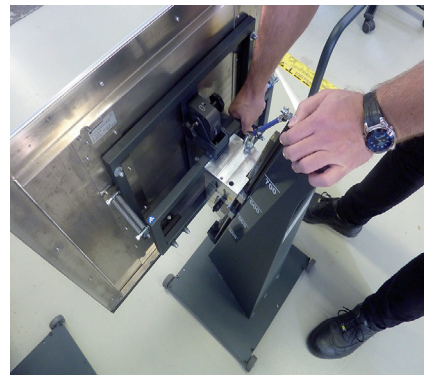

Fig. 8: Ergonomic height adjustment
2. Move the vertical release to the Upwards position (rotate to the right), see also fig.8.